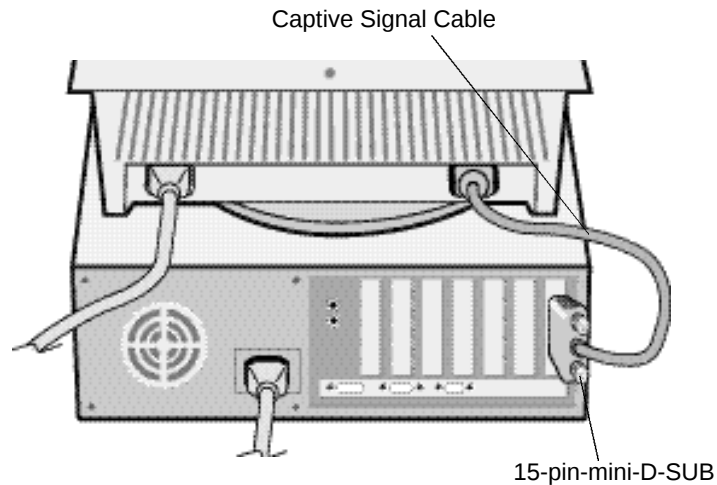

Figure A.1
- 3 Connect the 15-pin mini D-SUB of the captive signal cable to the connector of the display card in your system (Figure A.1) Tighten all screws.